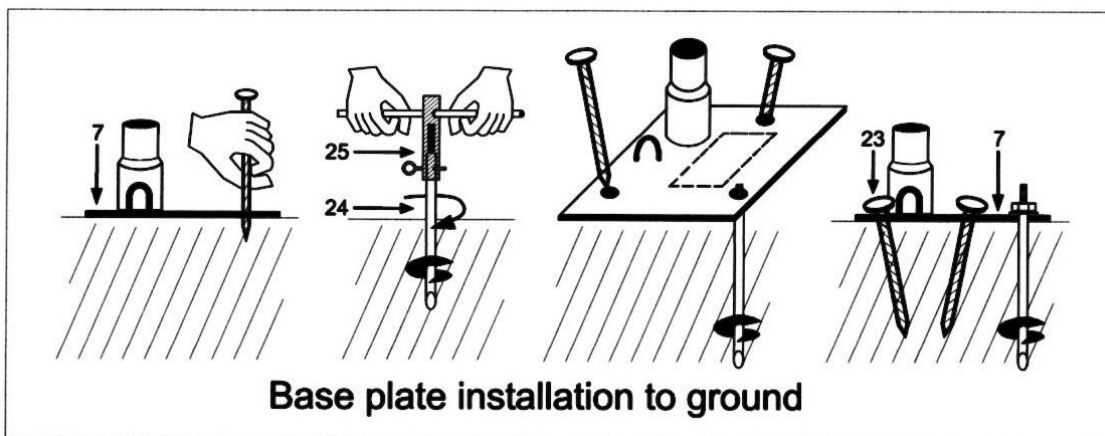

Figure 3
2. There are three holes on the plates, one for earth auger and two for stake peg. Refer to Figure 3 to place the stake pegs and swirl the earth auger into the ground, THUS ALL BASE PLATES ARE SECURED.
As Figure 3 shows each Base Plate is equipped with one piece of Earth Auger (No.24) and two pieces of Stake Peg (No.23)